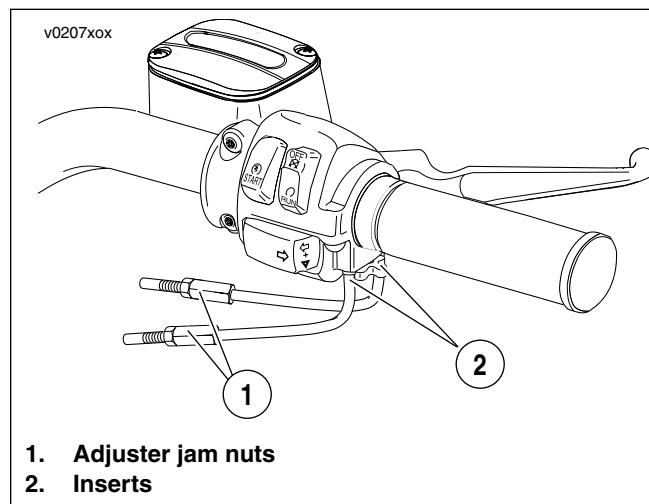

Figure 2-42. Handlebar Throttle Control
1. See Figure 2-42. Loosen cable adjuster jam nuts (1). Screw throttle cable adjuster until it is as short as possible.